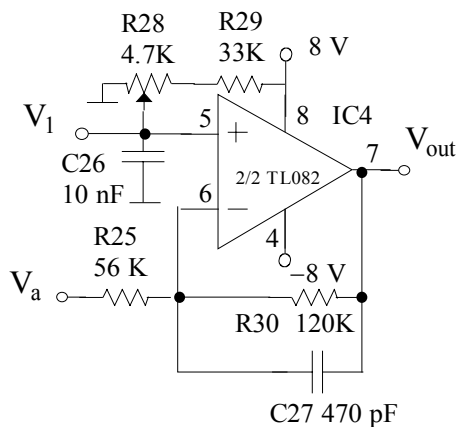

Figure 3.36 Audio signal output circuit
7. The voice signal is now clipped to about 0.6 V. The maximum amplitude can now be 0.6 V. The audio signal carries the information to be transmitted and it is the modulating signal in TRC-10. The audio signal must be superimposed on (added to) a d.c. voltage before modulation in order to obtain AM signal, as discussed in Section 1.3. For example, if the d.c. voltage is twice the maximum amplitude of audio signal, then modulation index becomes 50%. We construct this signal in the circuit shown in Figure 3.36.